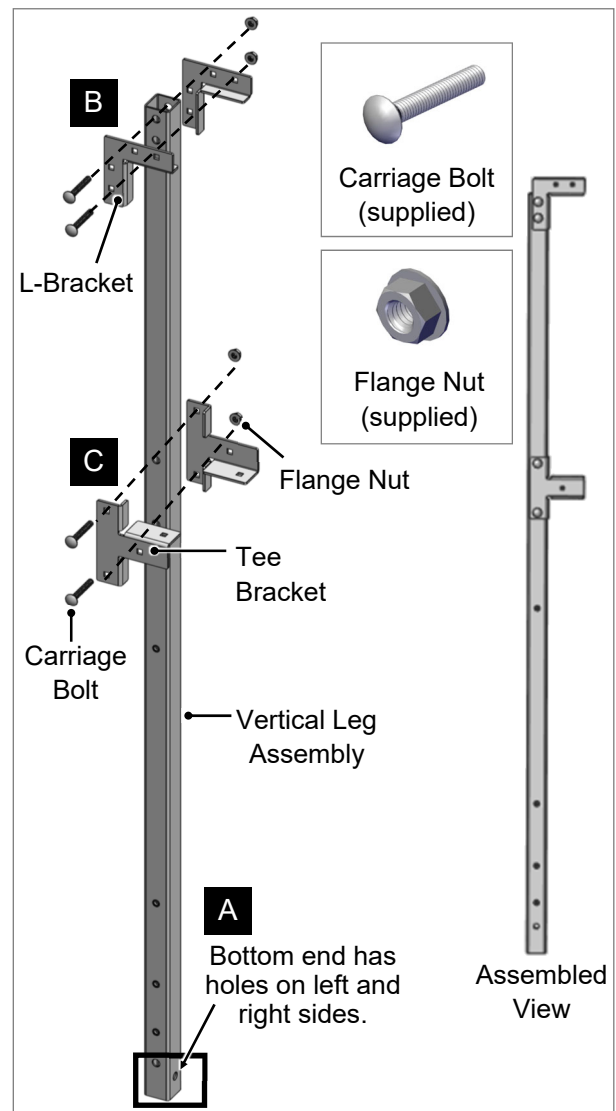

Fig 4. Vertical Leg Assembly
- Position the vertical leg with the top end facing up. The top end has holes on the front and back sides only. The bottom end has an additional hole on the left and right sides (see "A" in Fig 4).
- Attach two (2) L-Brackets to the top of the leg (one on each side) and secure with two (2) Carriage Bolts and two (2) Flange Nuts (see "B" in Fig 4).
- Attach two (2) Tee Brackets to the middle of the leg (one on each side) and secure with two (2) Carriage Bolts and two (2) Flange Nuts (see "C" in Fig 4).